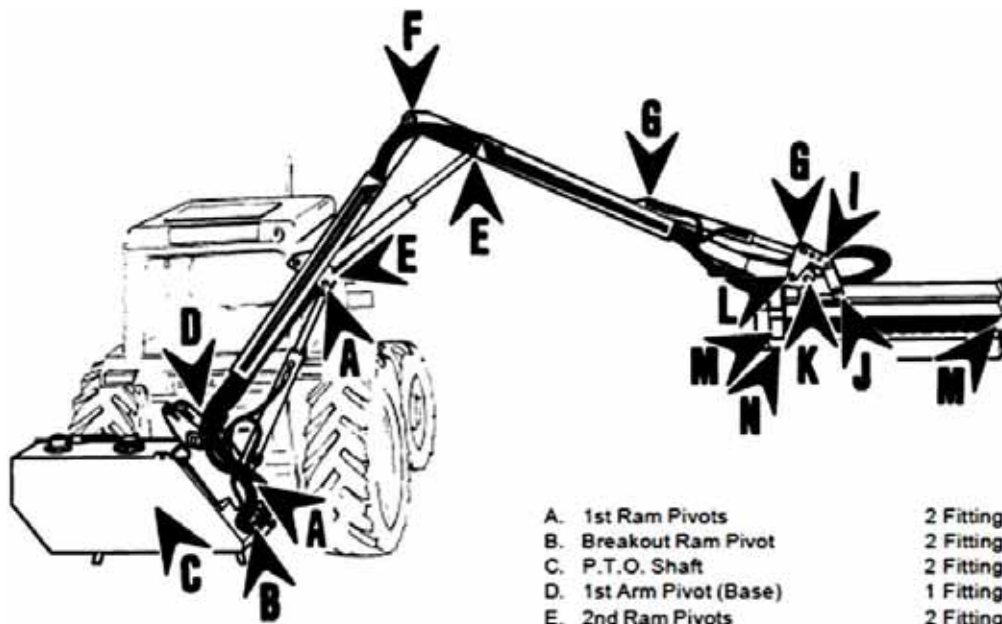

FIGURE 5-1
- **Lubricate:** All lubrication points as indicated in Figure 5-1 below. Position the machine on a flat surface and switch the power take-off and the tractor off. Lubricate these parts every 8 working hours.